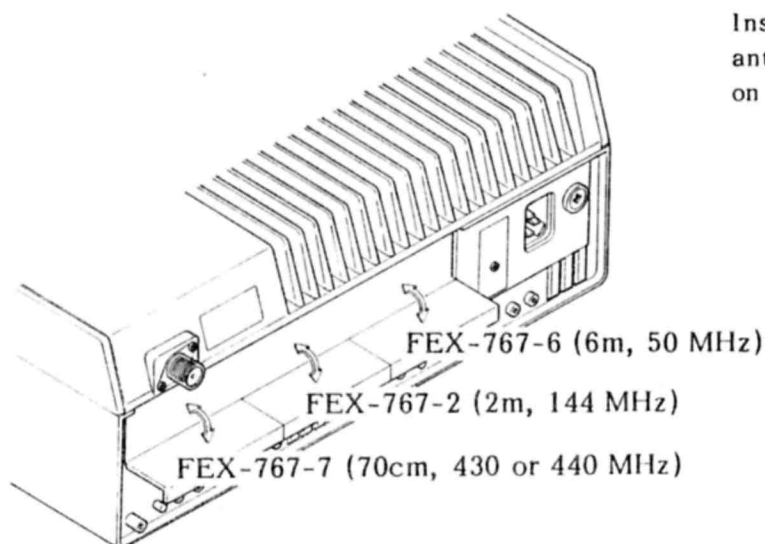

Figure 1. Band Module Locations
- (1) Referring to Figure 1, note the installation locations for each of the Band Modules: these are not interchangeable! Each band must be installed only in the location shown. Open the black plastic protective cover over the location(s) which will have modules installed, and tear off the cover after flexing the hinge at the lower edge back and forth several times. If some modules are not being installed, leave the covers at those locations in place.